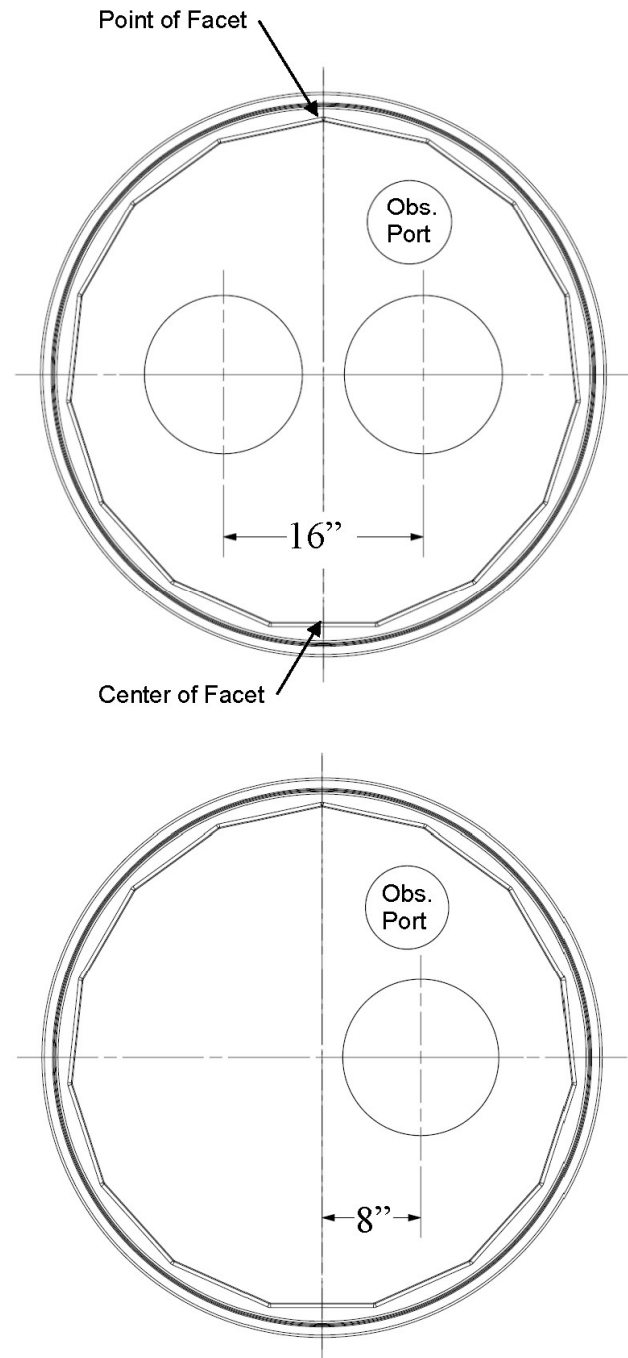

Figure 28
47. After the sumps have been installed and backfilled, the multiport or offset fill covers can be installed. The FL100F frame must be carefully installed to ensure the fill and vapor port openings will line up properly above the risers. In order to position the frame so that the centerline of the fill and vapor ports are positioned directly over the fill and vapor risers, the FL100F frame must be positioned so that the centerline of one of the 15 flat facets on the frame is 180 degrees opposed from the point of the opposite facet (as shown in Figure 28). Also, the desired orientation of the observation port must be considered. If a sensor or other accessory in the sump needs to line up with the observation port there are two possible orientations available and the frame must be rotated to match accordingly.